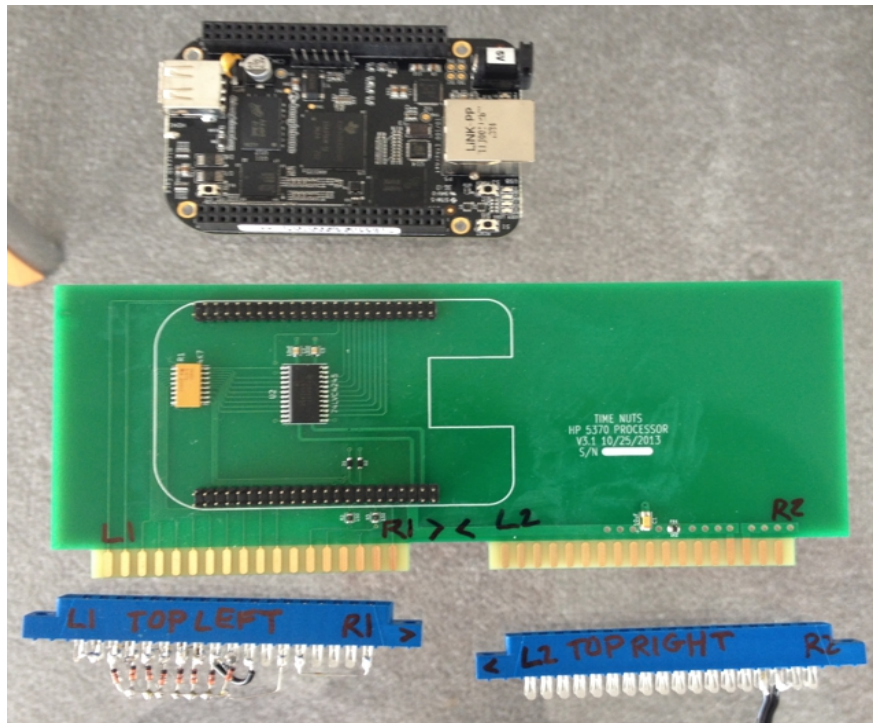

Figure 1: Test fixture components
Each trace on the board will be tested for opens and shorts with errors displayed using four LEDs on the attached BeagleBone single-board-computer (top component in Figure 1 below). The BeagleBone runs the Linux operating system and it is important to let the test finish, and Linux shutdown, before removing power. This is described in the steps below.
1. Figure 1 shows the BeagleBone and the two blue edge connectors that will attach to the board-under-test. The right edge connector carries +5V DC from an AC power module that should be compatible with China AC power outlets.